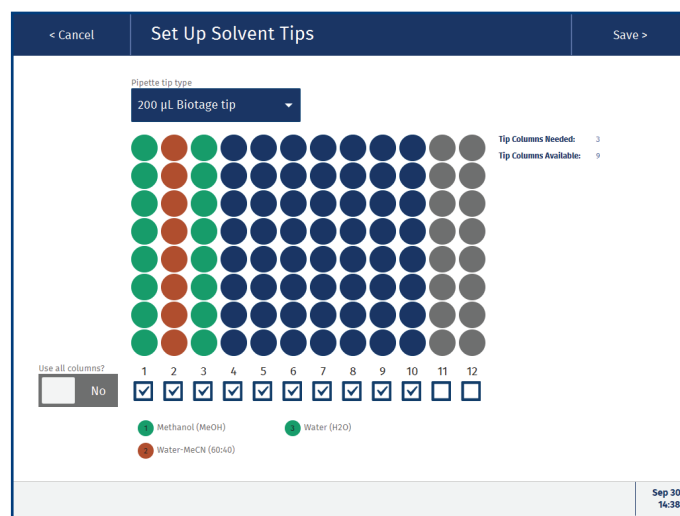

Figure 38. The Set Up Solvent Tips view.
- Press the illustration of the solvent pipette tips in the **Prepare Run** view (position **1**) and ensure that the **Set Up Solvent Tips** view (see Figure 38) corresponds to the physical pipette rack in position **1** on the working area.
-  Pipette tip available for reuse with the solvent listed below the tips; see Figure 38.
-  Pipette tip available for reuse but will not be used in this run (wrong solvent); see Figure 38.